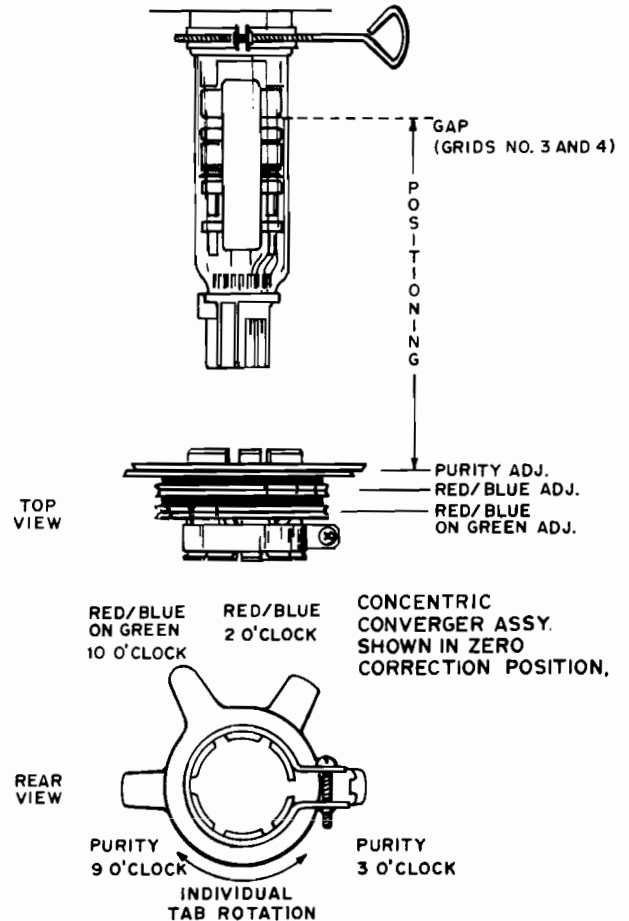

Figure 2 Convergence and Purity Adjustments
- 2.2 Set the converger assembly on the CRT neck with the centerline of the purity adjustment magnet over the gap between grids no. 3 and 4 (see Figures 2 and 6).